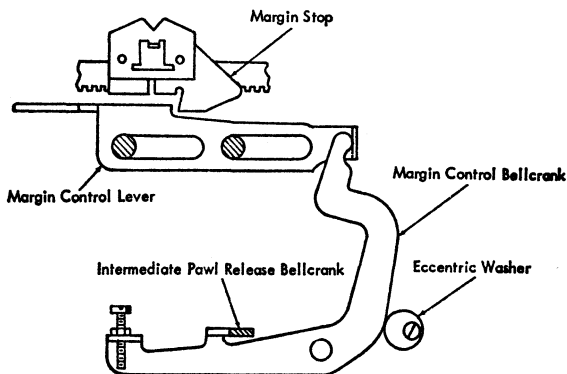

Figure 5. Margin Control Bellcrank Stop
8. **MARGIN CONTROL BELLCRANK STOP.** Position the eccentric washer so that the intermediate-pawl-release bellcrank engages the ear on the margin control bellcrank by the thickness of its own metal. The carriage should be away from the left margin when checking this adjustment (Figure 5).